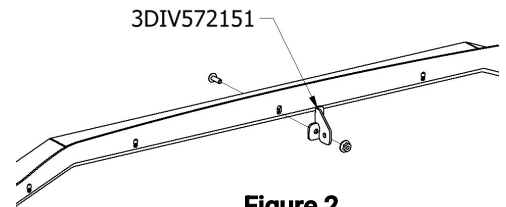

Figure 2
D. Remove the 1/4" phil truss bolt in the upper center-most location that holds on the wing and window of the rear barrier. Reinsert the bolt from the rear of the barrier so the threads stick forward through the barrier. Install (3DIV572151) divider bracket onto bolt and tighten nut to hold bracket in place. (Fig. 2) These 2 brackets will be used to help locate center of the seat.